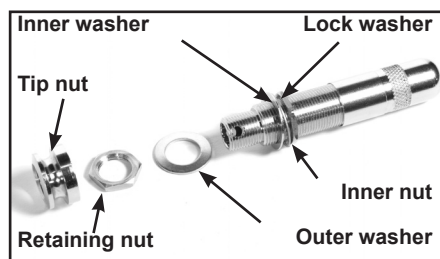

Figure 15a – Jack components
5. To install the jack, first remove the tip nut, the retaining nut, and the outer washer from the jack (*see figure 15a*). Leave the lock washer, inner washer, and inner nut in place.